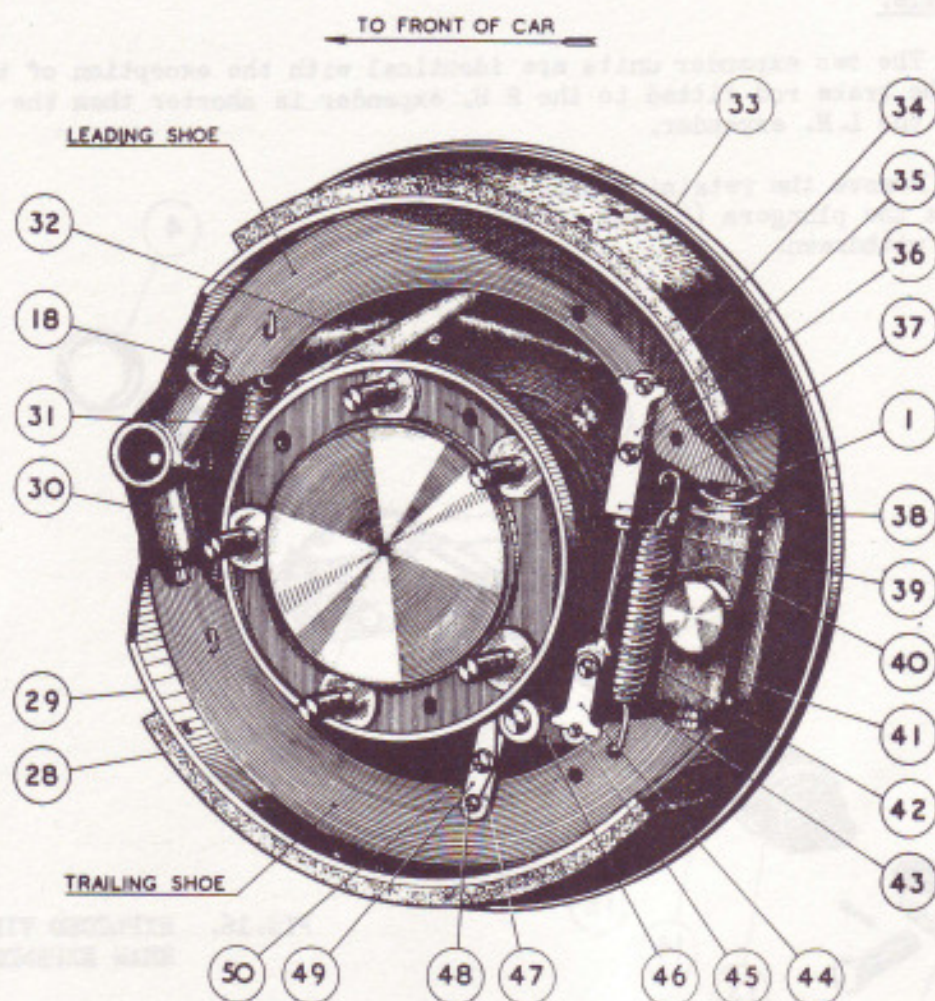

FIG. 15. REAR BRAKE.
The same procedure as described for the front brake should be carried out when removing the rear brake shoes. Refer to Fig.15.
- (iii) Screw up the adjuster screw whilst rotating the drum until the drum cannot be rotated any further. Slacken back the adjuster screw, remove the drum and examine the bedding on the shoes as shown by the chalk. The bedding should be equal on each shoe. If, for example, the bedding on the leading shoe is heavier than on the other shoe, then uncouple the long jaw (98, Fig.9 and 38, Fig.15) from the shoe. Slacken back the locknut (100 and 39) and screw up the jaw half a turn to obtain the correct bedding and then re-tighten the locknut. If, however, the bedding on the trailing shoe is heavier, then the jaw should be screwed outwards.
- (iii) Rear brakes only. Replace the water excluder (33 Fig.15) and secure with the four nuts and spring washers. Roll the rubber washer (ring) into its groove on the expander housing and replace the rubber dust cover.